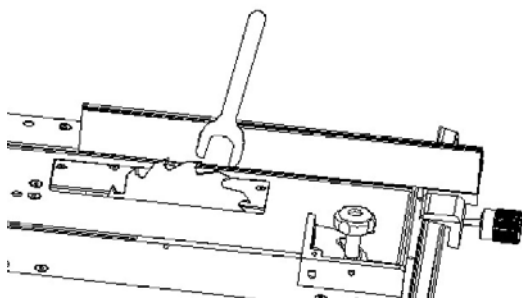

Fig. 20: remove the table TKS 200
Step 1: Remove the table insert (Fig.20) and loosen the fixing screw of the saw blade.